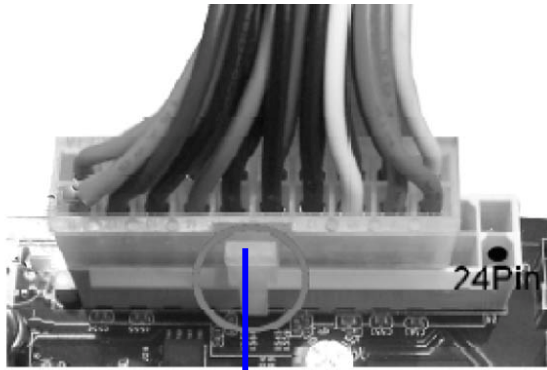

Figure 1: 20-pin power plug
- ** Please refer to Figure 1 for 20-pin power plug connection. Power plug and motherboard power connectors has adopted key design to avoid installation mistake through connection can be made easily if in the proper direction. If the installation direction is incorrect and you make the connection by force both the board and the power supply can be burned. Please see to it that the direction is correct during installation.